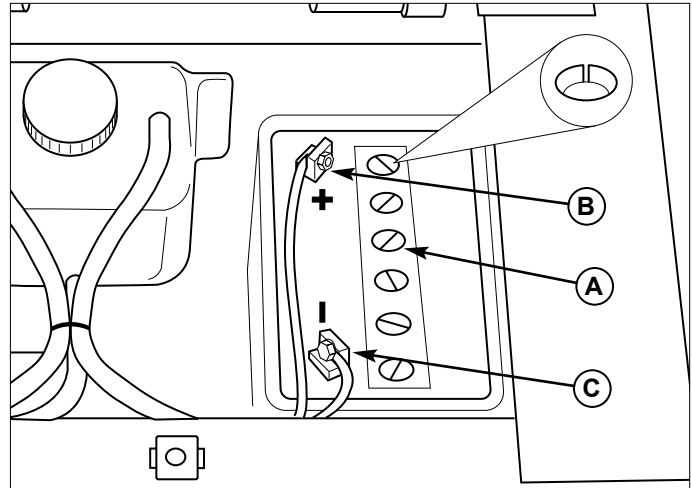

Figure 23. Battery Compartment
3. Remove the battery filler cap (A, Figure 23). Fluid must be even with the split ring full mark. If not, add distilled water.
1. Disconnect the cables from the battery, negative cable first (C, Figure 23).
4. Reinstall the battery and reattach the battery cables, positive cable first (see B, Figure 23)